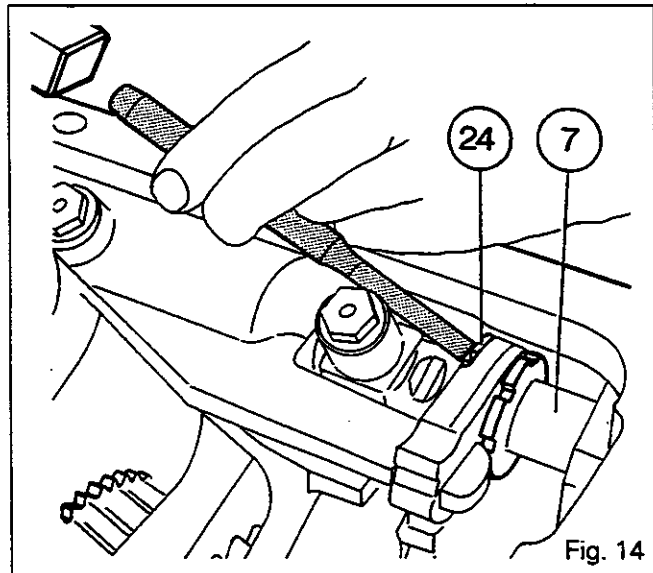

Fig. 14
- 55. Free the cone (24) on the selector rail (7) using a bronze drift (Fig. 14).
- 56. Remove the setscrew (8).